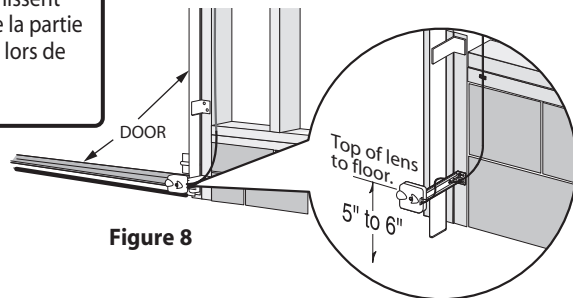

Figure 8
- Determine location for mounting. They do not need to be directly adjacent to the door but must be somewhere along the wall where there will be an unobstructed line between them. **Fig. 8.**